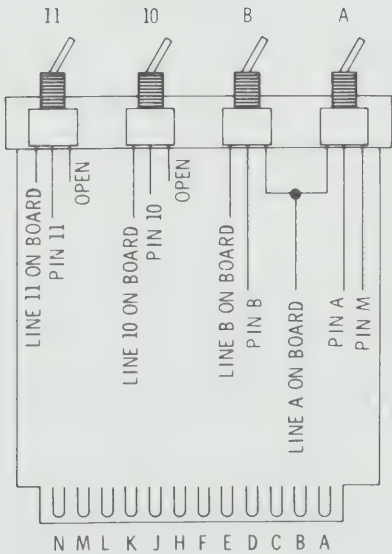

Figure E-1. 11661 Test Board
- 3. Wire as shown in Figure E-1.